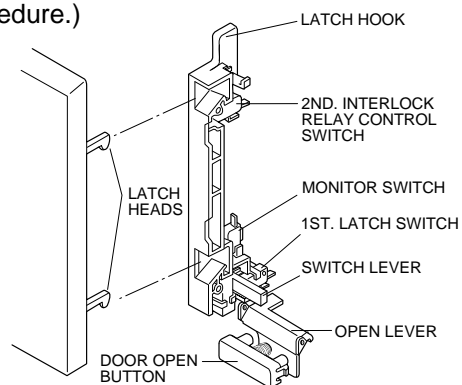

Figure C-1. Latch Switches Adjustment
1. Re-install switch lever and each switch in its place, refer to Figure C-1.